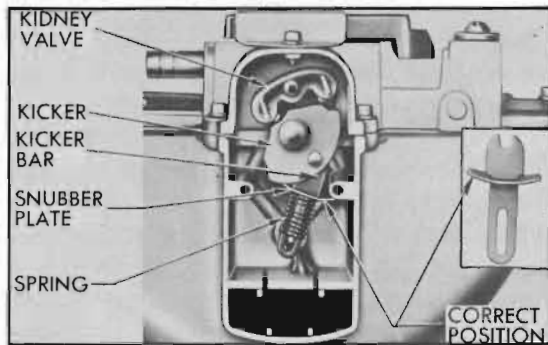

Figure 13-13—Wiper Motor Valve Parts
1. Remove cover and gasket from face of wiper motor, remove the kidney valve with needle nose pliers, then remove the kicker, kicker bar, and spring. See figure 13-13.
3. Discard a broken kicker bar, and use a new bar and snubber plate, which may be obtained from United Motor Service in a Trico Service Kit No. 4905A. Install the new snubber plate on the kicker bar with the ends curved toward the notched end of bar. See figure 13-13.
7. Install spring, kicker bar with snubber plate, kicker, and kidney valve. See figure 13-13. Install cover and gasket.